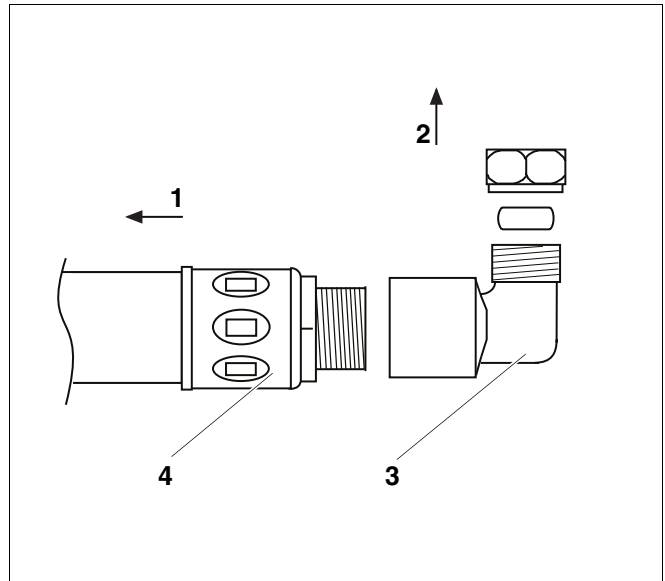

Fig. 3 Connect the complete station with the cylinder.
- Complete the connection to the cylinder using the elbow compression fittings (Fig. 3, **Item 3**).
- Fit the elbow compression fittings (Fig. 3, **Item 3**) to the cylinder connection (Fig. 3, **Item 4**) to connect the cylinder with the complete station.